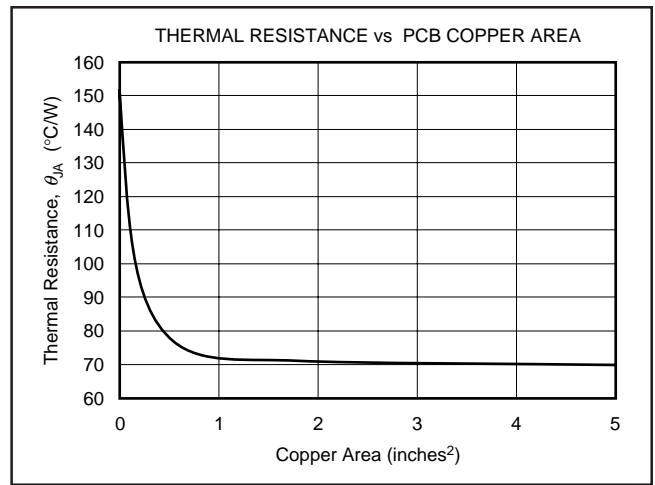

FIGURE 7. Thermal Resistance versus PCB Area for the MSOP-8.
(4) For $V_{ENABLE} > 6.5\text{V}$, see typical characteristic I_{ENABLE} vs V_{ENABLE} .
(5) The REG113 no longer regulates when $V_{IN} < V_{OUT} + V_{DROD(MAX)}$. In dropout, the impedance from V_{IN} to V_{OUT} is typically less than 1Ω at $T_J = +25^{\circ}\text{C}$.
(6) See Figure 7.